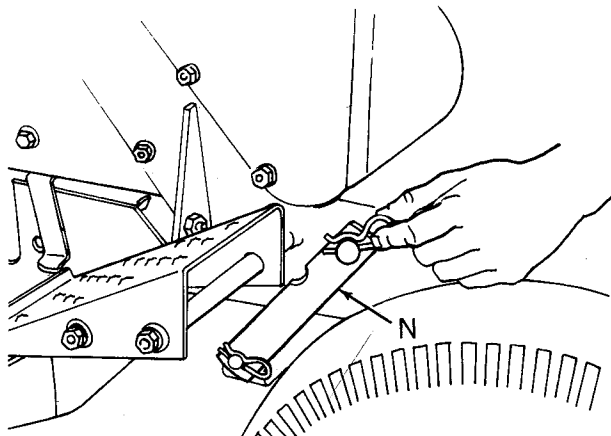

FIG. 14
7. Refer to Fig. 14. Attach two front links (N), to pins on each side of tractor as shown. Secure with retainer springs provided.